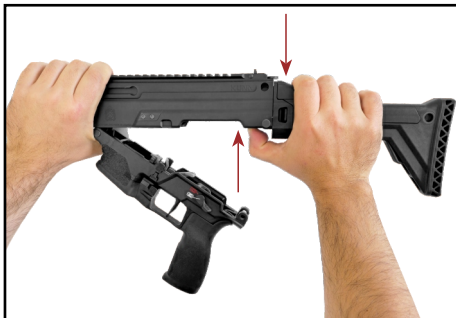
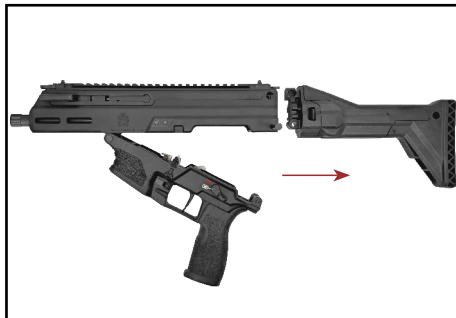

Figure 25-1
Figure 25-2
- Grab folding stock (fig. 25-1) and push it downward out of the upper receiver (fig. 25-2).